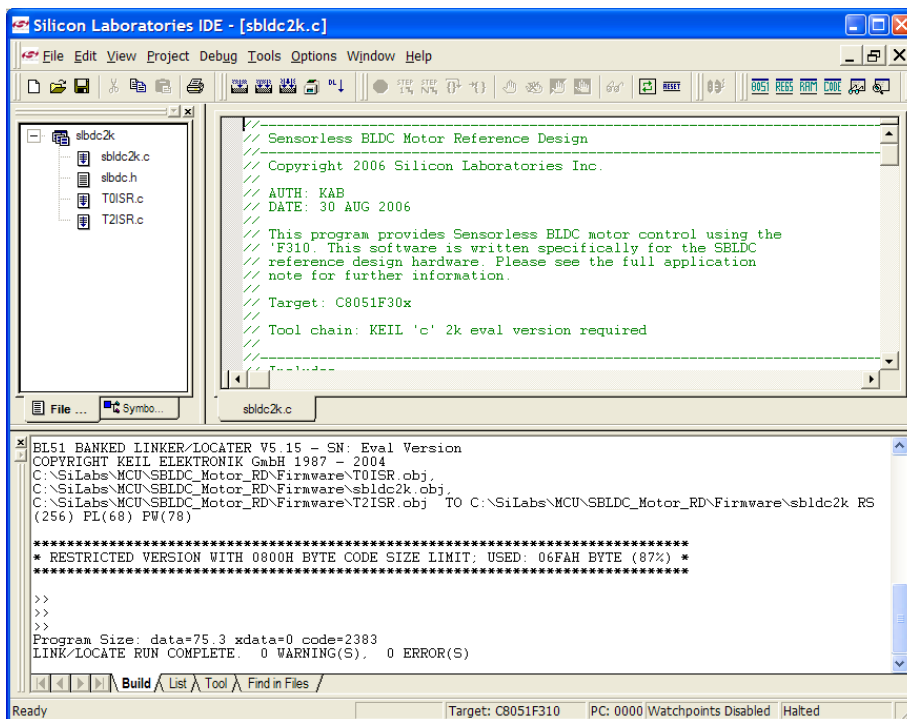

Figure 9. Sensorless BLDC Motor Project
5. Select "Rebuild All" from the project menu or click on the "Rebuild All" button. (The IDE will compile and link the sbldc.c file as shown in Figure 9.)